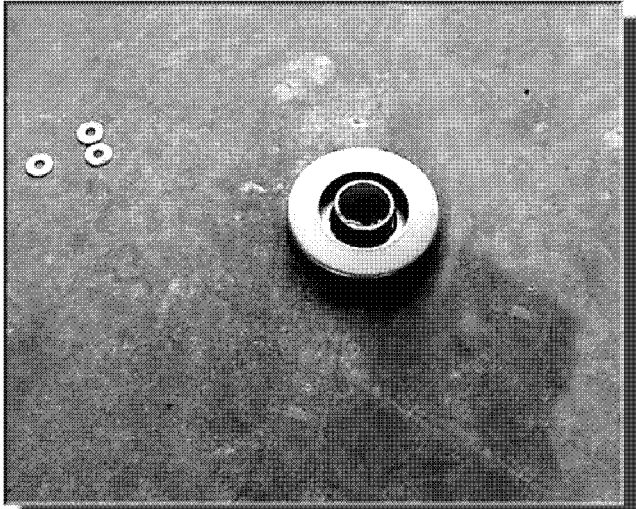

Figure 3.12 - Greased roto bottom bearing housing with base cover.
26. Locate the base covers. Grease the interior portion of the Roto Bottom Bearing Housings. Slide one base cover over each of the Roto Bottom Bearing Housings, refer to **Figure 3.12**.